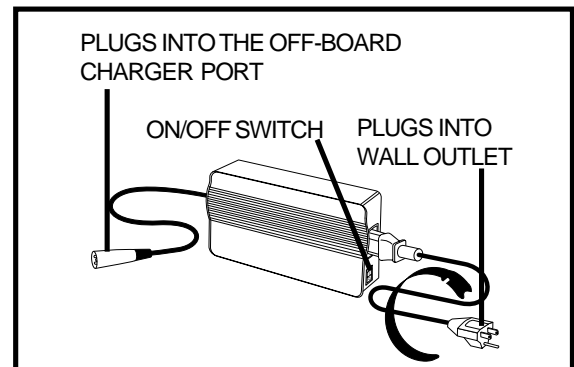

Figure 9. Off-Board Charger
4. Plug the 3-pin charger power cord into the off-board charger port. **See figures 9 and 10.**